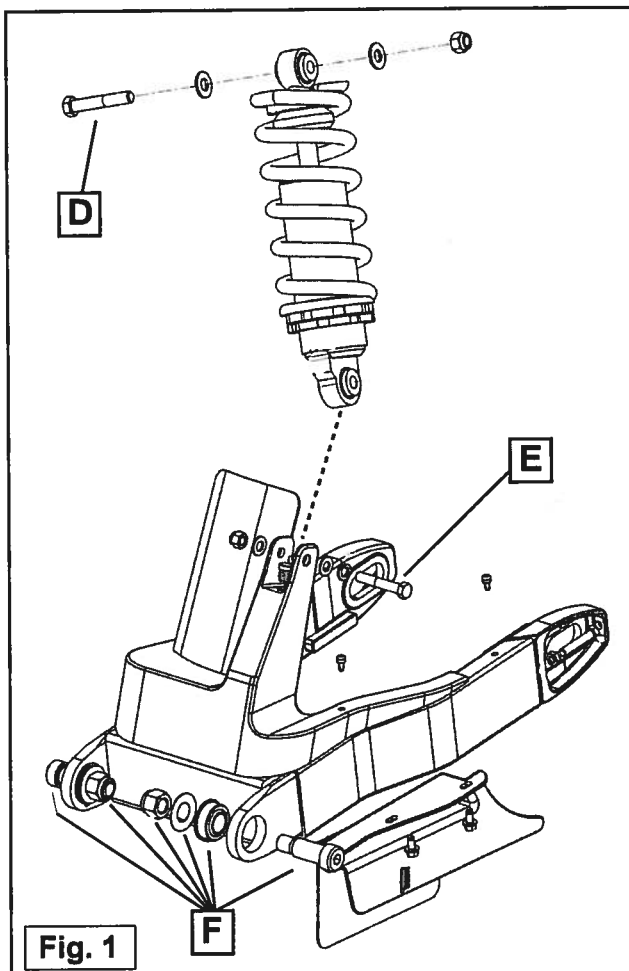

Fig. 1
4. Grasp the rear wheel and push firmly side-to-side (B). If movement is detected, determine if movement is at axle area (C) or swingarm pivot area (see Fig. 1). Refer to Chapter 13 for wheel bearing and swingarm bearing replacement.
8. Inspect fasteners, bushings, and bearings on all suspension components, including shock absorber top mount (D) and lower shock absorber mount (E).